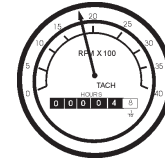

Figure 46. Engine Tachometer Gauge
10. The **tachometer gauge** (Figure 46) will indicate the speed of the engine when the generator is operating. Under normal operating conditions this speed is approximately 1500 RPM's.